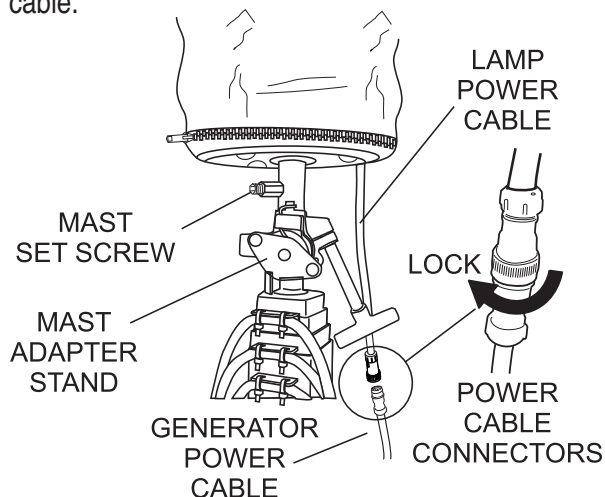

Figure 11. Mast Set Screw/Power Connections
For circular positioning, swing the lever to the desired position. See insert B in Figure 11.
- Before raising the mast, make sure the mast set screw (Figure 11) is securely tightened (use an 5mm-allen wrench to tighten). This will prevent the balloon/lamp assembly from falling off. In addition make sure the power cable from the generator is connected to the lamp power cable.